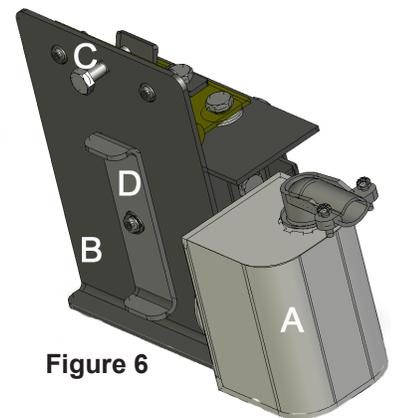

Figure 6
After the wood is burning well, close the bottom door. The automatic draft control will now regulate the fire. The idle control (as shown on Fig. 6) on the flapper door must be adjusted so the fire does not go out or overheat. Experience will dictate the best setting. Normally the two manual draft controls on the loading door are kept closed to burn wood.
**Draft Control Settings** - The idle air adjustment on the flapper door may need to be adjusted slightly less for coal than for wood. Here again, experience will dictate the best setting. The maximum air adjustment bolt can be set at the maximum position for quick recovery. When a longer than normal burn time is desired, the maximum air adjustment can be reduced. Never adjust the maximum air bolt when the flapper door is opened. See Fig. 6 on page 11.